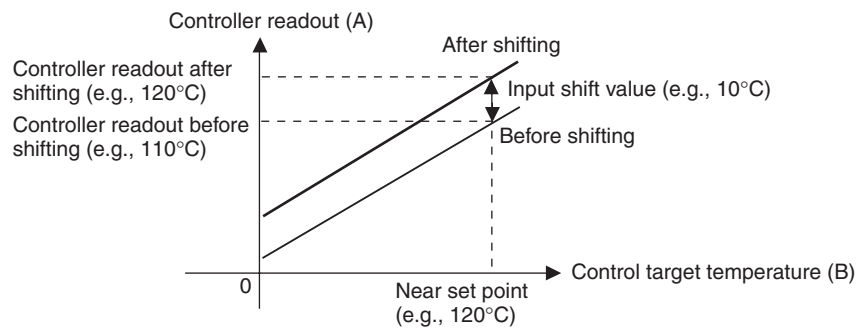

Figure 2 Illustration of 1-Point Shift
2. Check the control target temperature (B) and the Controller readout (A). Subtract the Controller readout temperature (A) from the control target temperature (B), and set  $\bar{L}NSL$  and  $\bar{L}NSH$  to the result as the input shift value. The shift is illustrated in *Figure 2*.
3. After setting the input shift values, check the Controller readout (A) and the control target temperature (B). If they are almost the same, this completes shifting the temperature input.